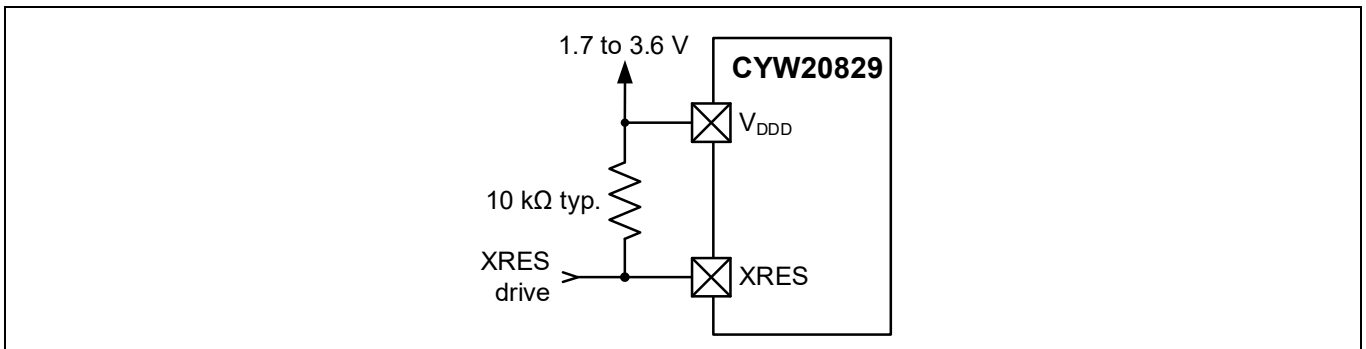

Figure 10 XRES connection diagram
- External reset dedicated pin (XRES) to reset the device using an external source. The XRES pin is active LOW. It can be connected either to a pull-up resistor to V_{DD} , or to an active drive circuit, as **Figure 10** shows. If a pull-up resistor is used, select its value to minimize current draw when the pin is pulled LOW; 10 k Ω is typical.